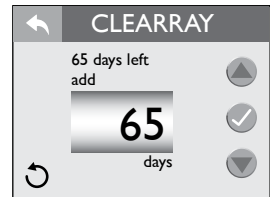

Figure 12.7c
1. From the “Water Care” Menu you can to set the CLEARRAY UV bulb timer, Figure 12.7c.